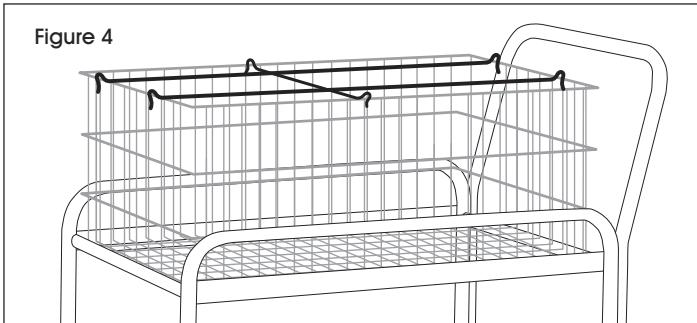

Figure 4
3. Install guide rods on upper basket. (See Figure 4)